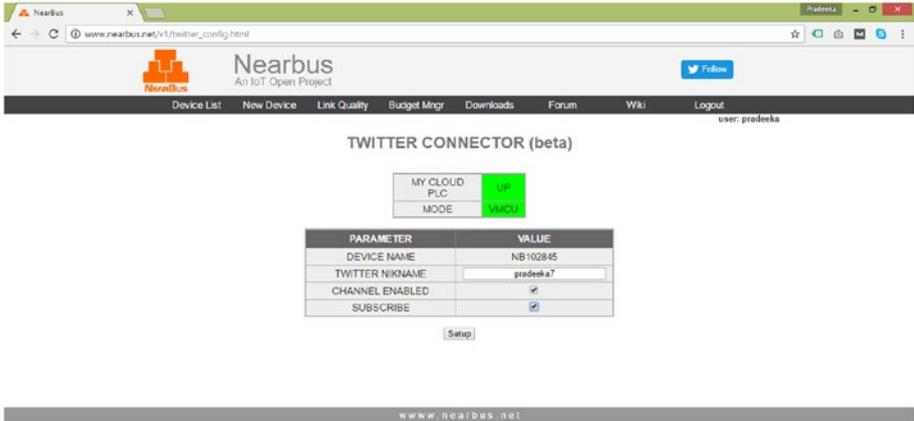

Figure 8-8. The Twitter Connector page
1. In the **Devices List** page, as shown in Figure 8-5, select **Twitter Config** from the *drop-down* list and *click* the **Setup** button. The **Twitter Connector** page will appear, as shown in Figure 8-8.